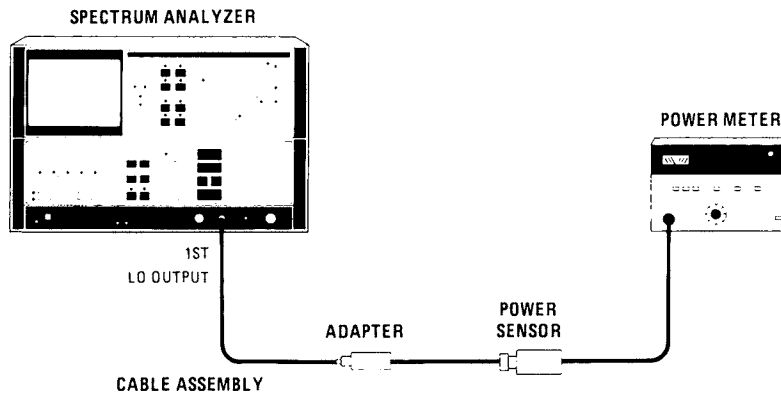

Figure 4-42. 1ST LO OUTPUT Amplitude Test Setup
3. Calibrate power meter and sensor. Connect equipment as shown in Figure 4-42.